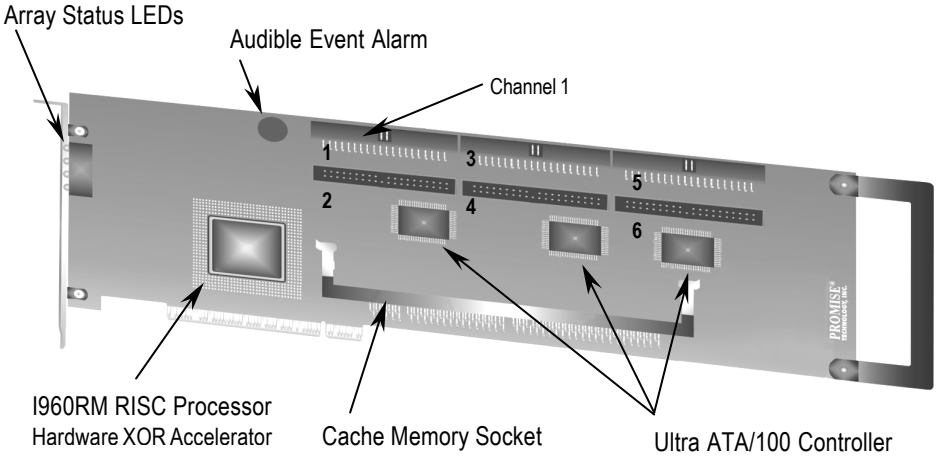

Figure 1 SuperTrak SX6000 controller card
NOTE: *The SuperTrak SX6000 controller card ships with a removable protective label that covers the audible alarm buzzer device (see Figure 1). This label must be removed prior to installing the card.*
Seen in Figure 1, the SuperTrak SX6000 controller card has several physical features of interest for purposes of installation: A DIMM socket for memory (minimum 16MB required), 6 IDE channel connections (1 "master" drive per channel), an alarm buzzer, a battery, and 4 LEDs on the card's backplane.
- (1) Install memory into the DIMM slot at DIMM1 (see Figure 1). The minimum memory requirement is 16MB. You may use up to 128 MB ECC or non-ECC, unbuffered 168-pin PC100 or higher SDRAM.
- (2) Remove protective label for audible alarm buzzer (see Figure 1).